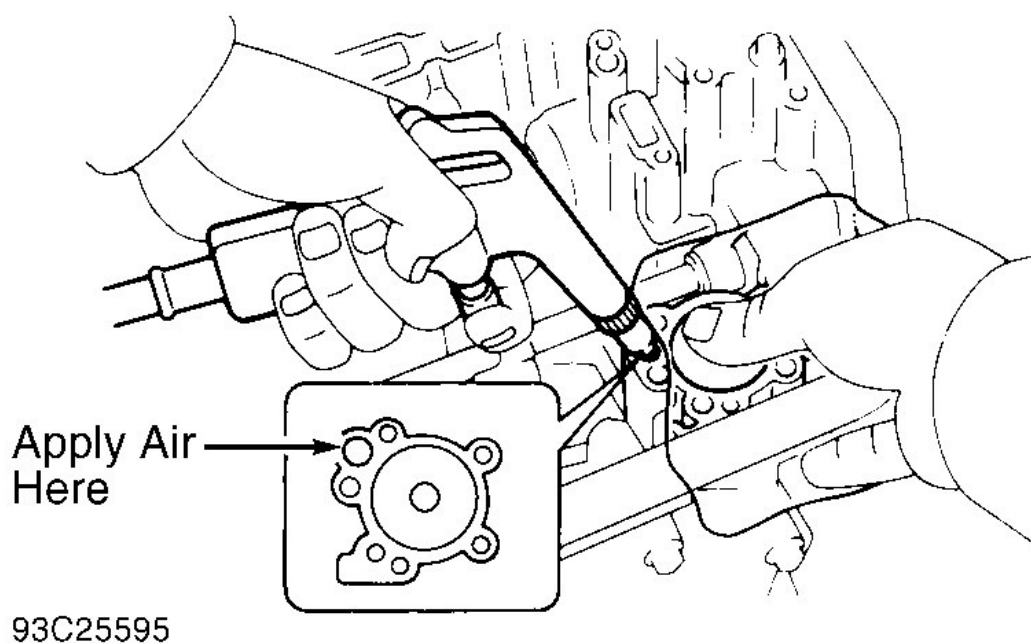
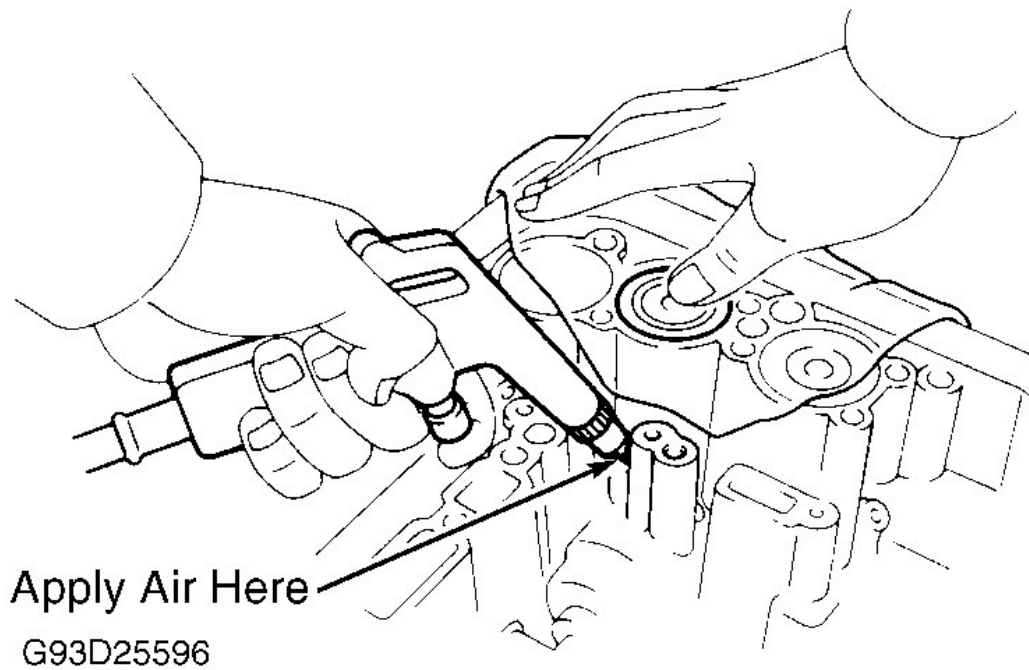

Fig. 11: Removing Underdrive Clutch Accumulator Piston & Spring
Fig. 12: Removing Direct Clutch Accumulator Piston & Spring
4. Apply 14 psi (1 kg/cm²) of compressed air to oil passage to remove underdrive clutch accumulator piston and spring. See **Fig. 11**. Loosen accumulator cover bolts evenly until spring tension is released. Remove cover and gasket. Remove forward clutch accumulator piston and springs. Apply 14 psi (1 kg/cm²) of compressed air to oil passage to remove direct clutch accumulator piston and spring. See **Fig. 12**.